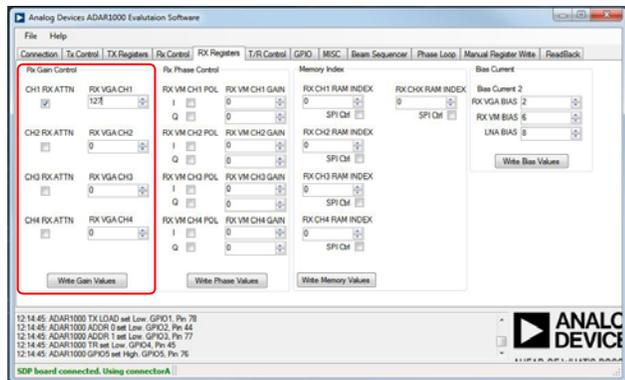

Figure 18. Setting Receive Channel 1 to Maximum Gain in Receive Gain Control with All Other Channels at Minimum Gain
1. Click the **RX Registers** tab (see Figure 18).